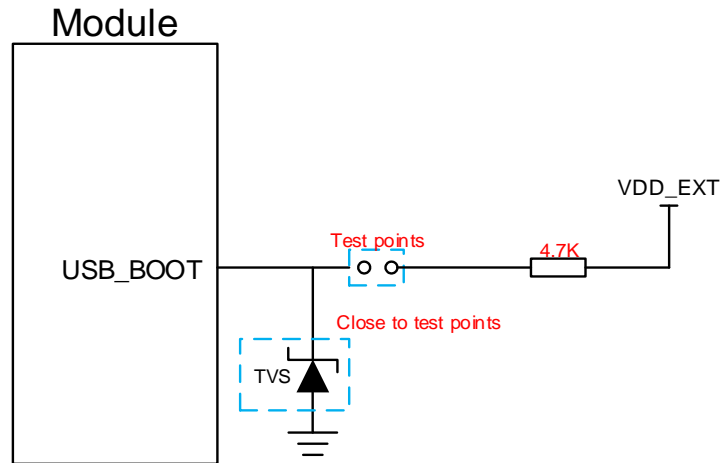

Figure 31: Reference Circuit of USB_BOOT Interface
3. When using MCU to control module to enter the emergency download mode, please follow the above timing sequence. It is not recommended to pull up USB_BOOT to 1.8 V before powering up VBAT. Connect the test points as shown in **Figure 31** can manually force the module to enter download mode.